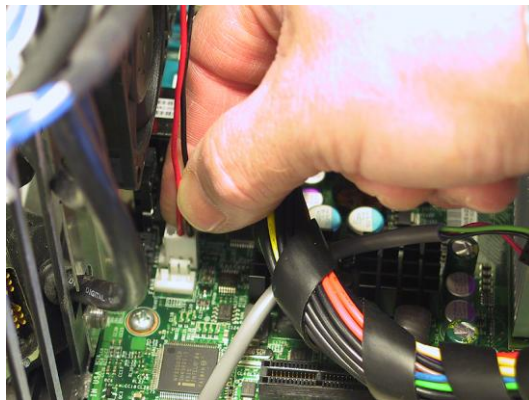

Figure 4-80
- 2) Disconnect the external cooling fan assembly's power supply cable from motherboard. Simply pull it away using your fingers as shown in Figures 4-80 and 4-81.